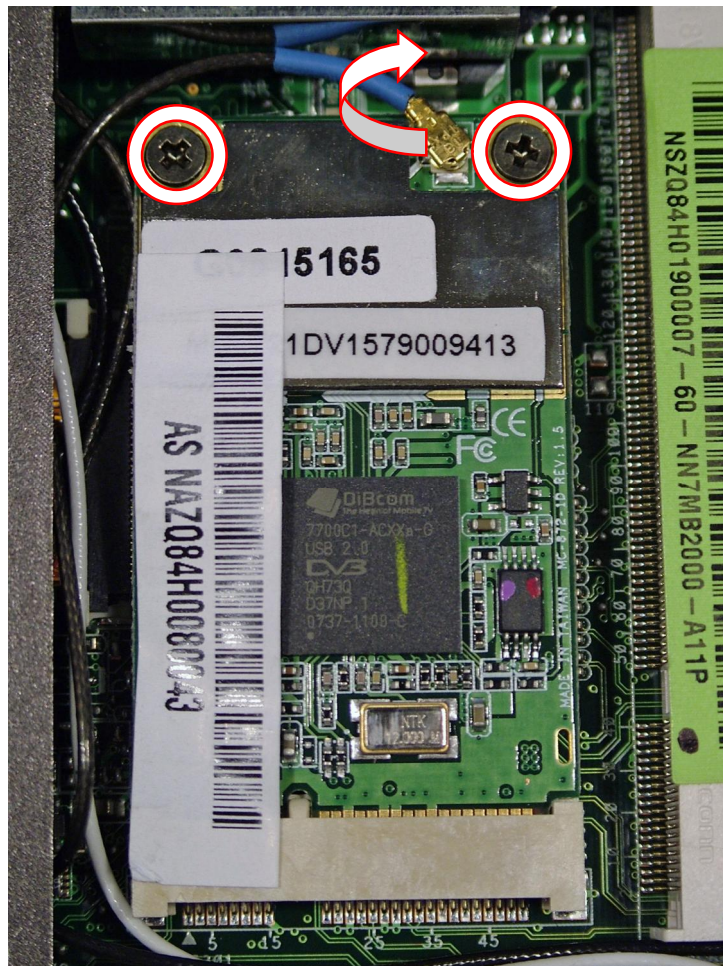

Fig. 7 Location of antenna cable connector and screw.
4. Remove the screw securing the TV tuner (see Fig. 7 on page 7); the card will eject upwards.